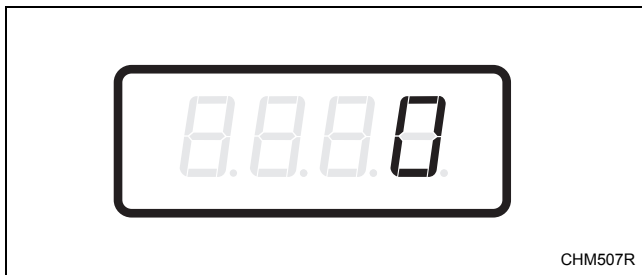

Figure 10
4. When “AtS5” appears in the display, press the START (enter) keypad. There are five digits in the Vend Price #5. The fifth digit will appear in the display and will flash one second on, one second off. Refer to *Figure 10*.